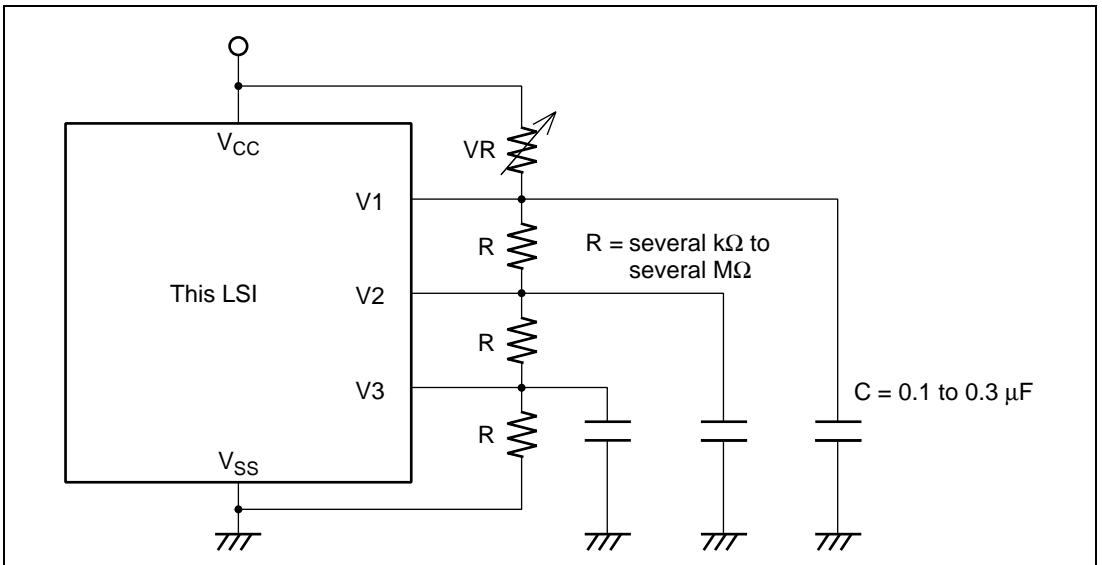

Figure 20.10 Connection of External Split Resistor
When a large panel is driven, the on-chip power supply capacity may be insufficient. In this case, the power supply impedance must be reduced. This can be done by connecting bypass capacitors of around 0.1 to 0.3 μF to pins V1 to V3, as shown in figure 20.10, or by adding a split resistor externally. The voltage on the V1 pin can further be adjusted by connecting a variable resistor (VR) between the V_{CC} and V1 pins.